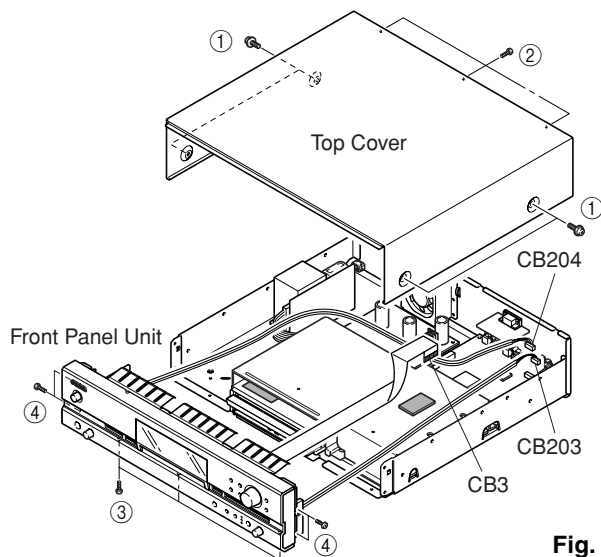

Fig. 1
- b. Remove 4 screws (①) and 3 screws (②). (Fig. 1)
- c. Remove the top cover rearward while lifting it up. (Fig. 1)
- a. Disconnect 3 connectors (CB3, CB203, CB204) from the MAIN P.C.B.. (Fig. 1)
- b. Remove 3 screws (③) and 4 screws (④), and the Front Panel Unit can be removed forward. (Fig. 1)
- Connect 3 connectors (CB3, CB203, CB204) to the MAIN P.C.B.. (Fig. 1)
- Install the Front Panel Unit and fix it with 3 screws (③) and 4 screws (④). (Fig. 1)